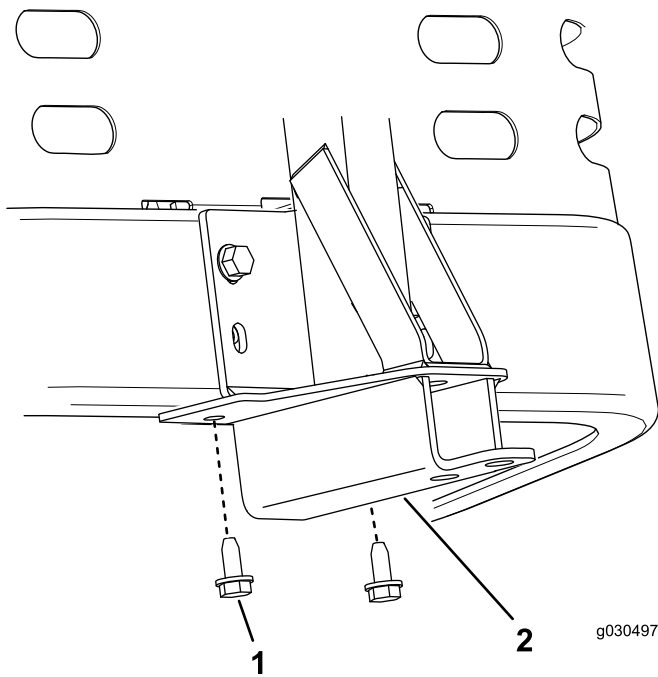

Figure 16
2. Secure the pivot frame to the bottom of the machine frame using 2 self-tapping screws (5/16 x 3/4 inch) as shown in Figure 16.